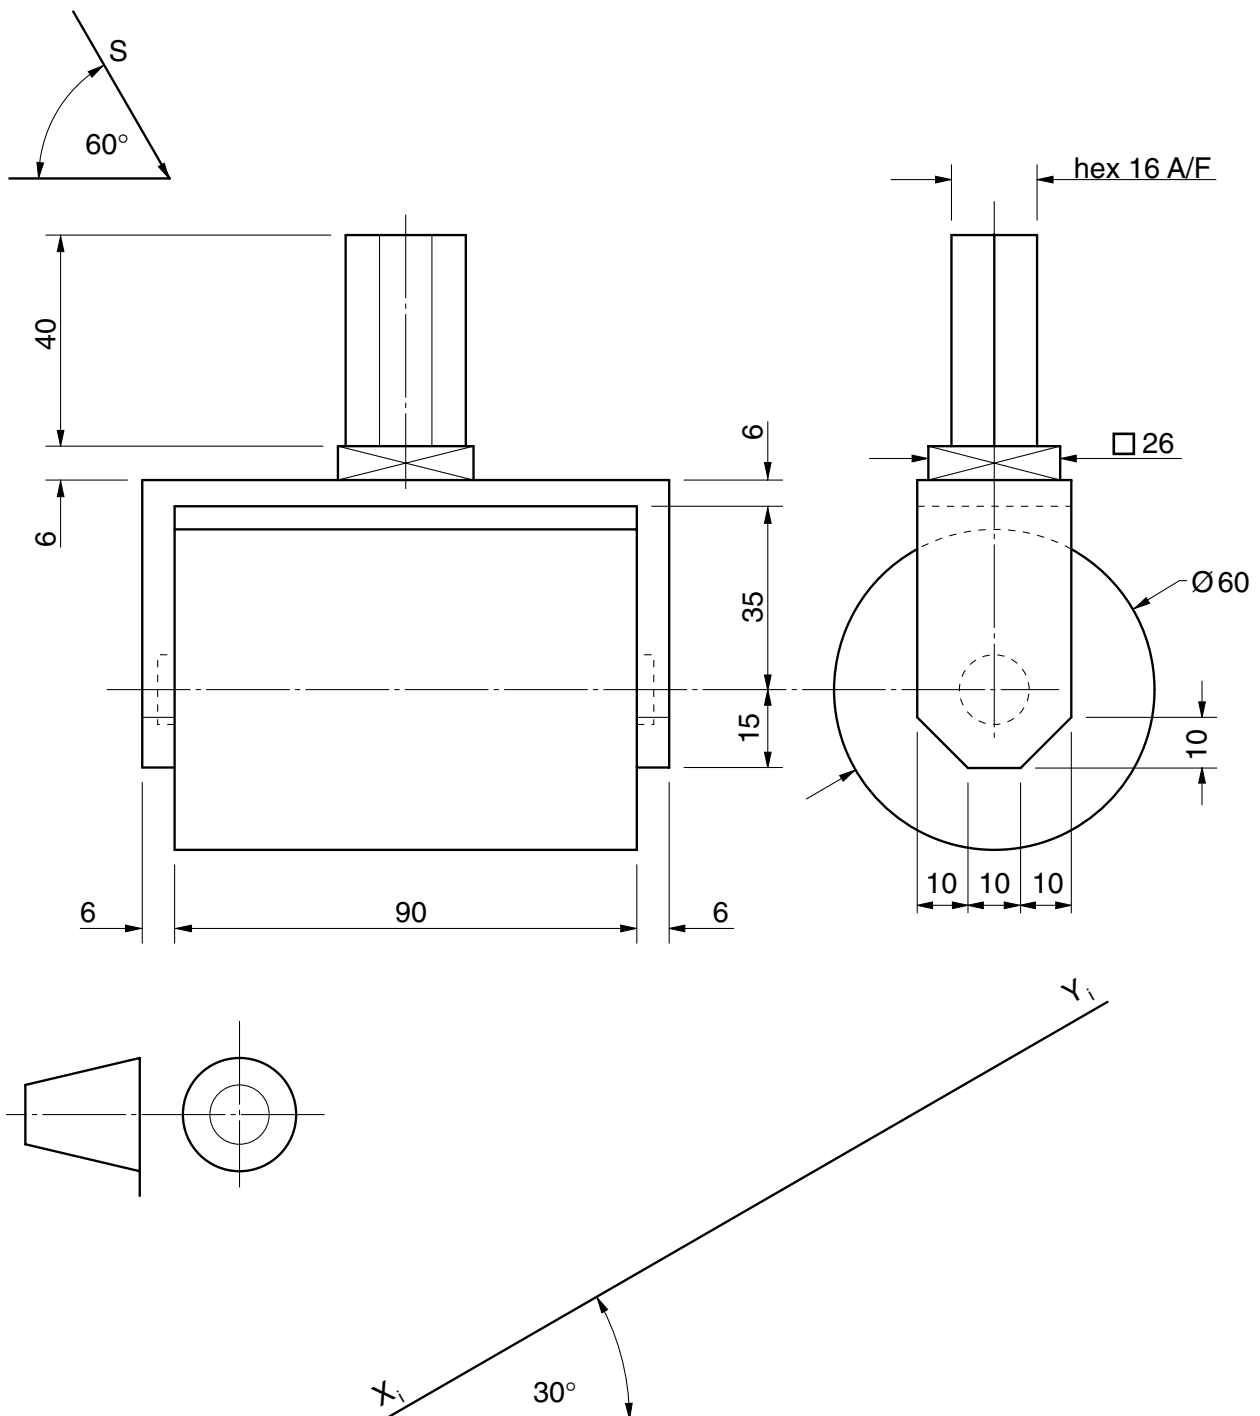

Fig. 3
- 4 Fig. 3 shows details of a roller and retaining bracket.